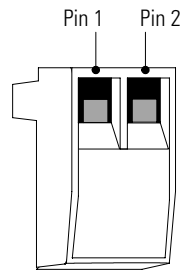

Figure 13. REPO Connector
3. Connect isolated, normally-open, dry contacts (rated to handle 60 Vdc maximum, 30 Vac RMS maximum, and 20 mA maximum) across the REPO device to Pin 1 and Pin 2 (see Figure 13). Use stranded, non-shielded wiring, size 0.75 mm²–0.5 mm² (18–20 AWG).